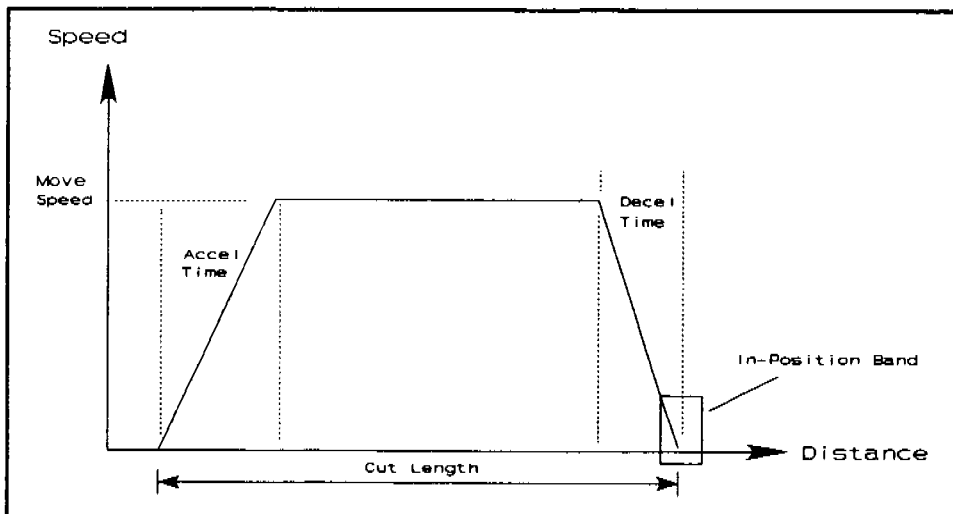

Figure 5-3: M-Cut Profile Move
**Note:** Steps 3 through 9 assume that the Profile 1 settings are entered first. Also note that Figure 5-3 illustrates how the Cut Length, Move Speed, Accel Time and Decel Time Control Parameters are used to calculate a profile move.
- 3) Select a cut length and enter its value into CP-1. This value should be entered in Engineering Units including the desired decimal location. For example, a cut length of ten with a resolution to the thousands is entered as 10.000. The value in CP-7 will determine how the setpoint entry is interpreted (magnitude and direction). Refer to item 9 on Page 5-8 for greater detail.